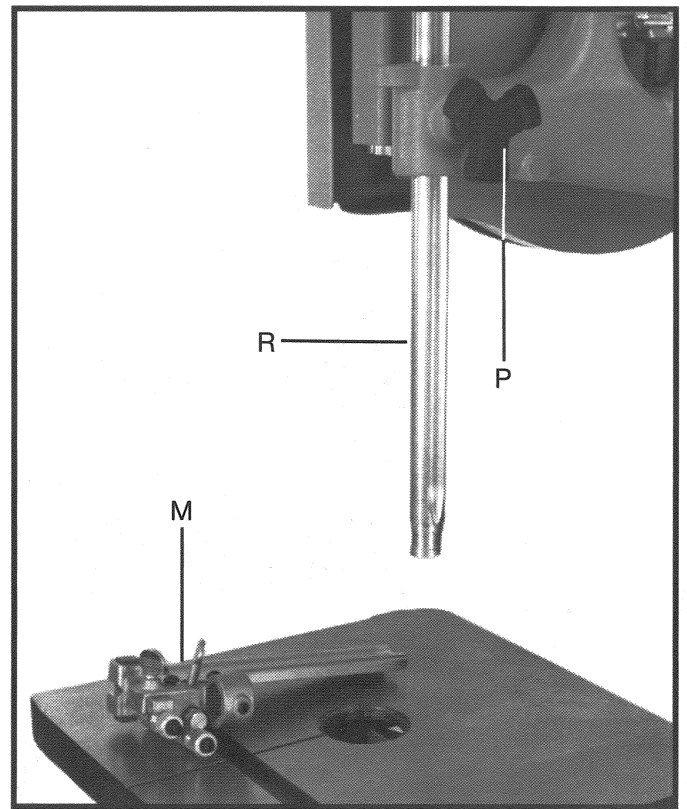

Fig. 11
10. Attach the supplied longer guide post (R) Fig. 11 to the upper arm and tighten the clamp knob (P). Attach the blade guide assembly (M) (removed in STEP 8) to the new guide post (R) Fig. 11.